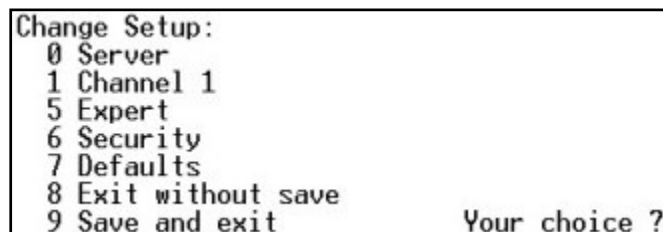

Fig. 4.9
If you see the above error indication then you must try to initiate Setup mode again. Retry steps 7 and 8. If steps 7 and 8 were performed correctly, you will see the following information displayed at the bottom of the HyperTerminal screen (Fig. 4.9):
- 10) You may also set a Gateway IP address if needed. Typing **Y** and then **Enter** will bring up a list of Gateway options (Fig. 4.11). If setting up a Gateway IP is unnecessary, type **N** and then **Enter** to return to the main menu of the setup screen (Fig. 4.9).